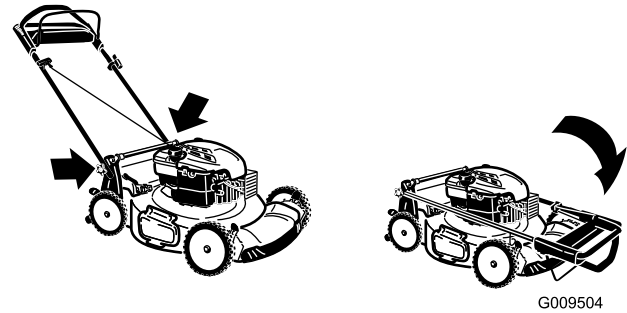

Figure 33
2. Fold the upper handle forward as shown in Figure 33.